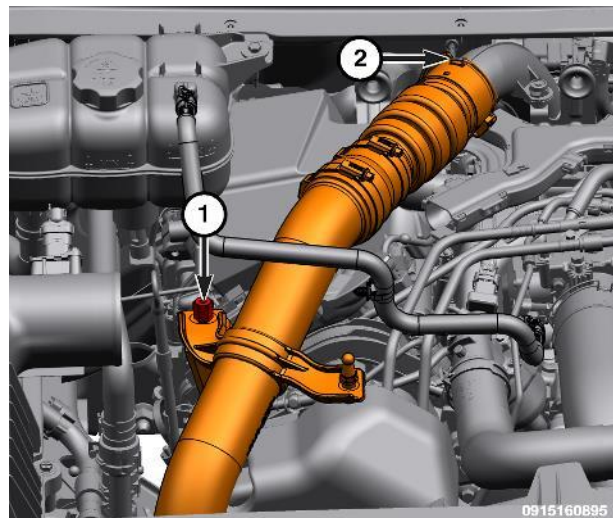

Figure 29 – CAC Hose
19. Remove the bolt (1) securing the Charge Air Cooling (CAC) hose (Figure 29).
20. Release the retaining clip and disconnect the CAC hose (2) from the turbocharger elbow and remove the hose (Figure 29).
63. Connect the CAC hose (2) to the turbocharger elbow and install the hose (Figure 29).
64. Install the bolt (1) securing the Charge Air Cooling (CAC) hose. Tighten to 7 N·m (63 in. lbs.) (Figure 29).